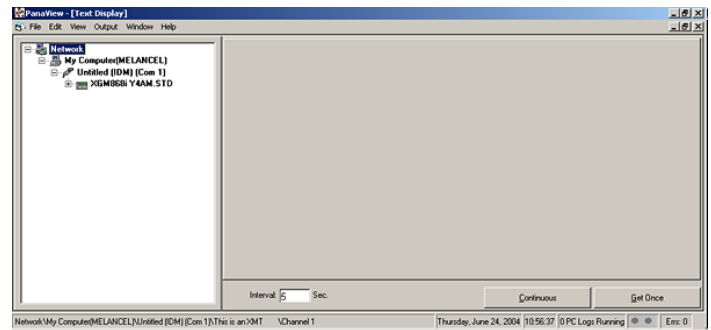

Figure 20: The text display window
2. Using the Window menu, as described in the PanaView manual, arrange the open windows in the desired format. For this discussion, Figure 20 shows the Text Display window in its maximized (full-screen) size.
5. Before actual data values can be displayed in the text pane, activate one of the following data collection modes (see Figure 20 above):